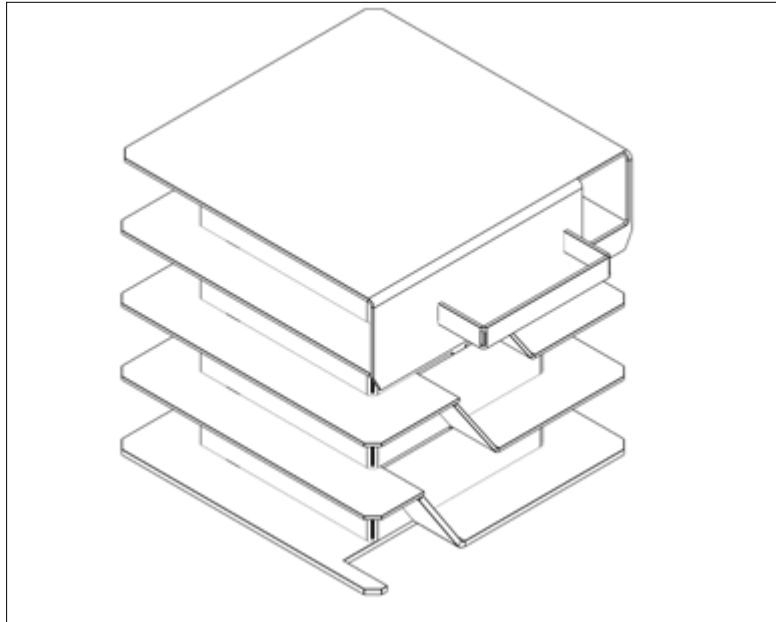
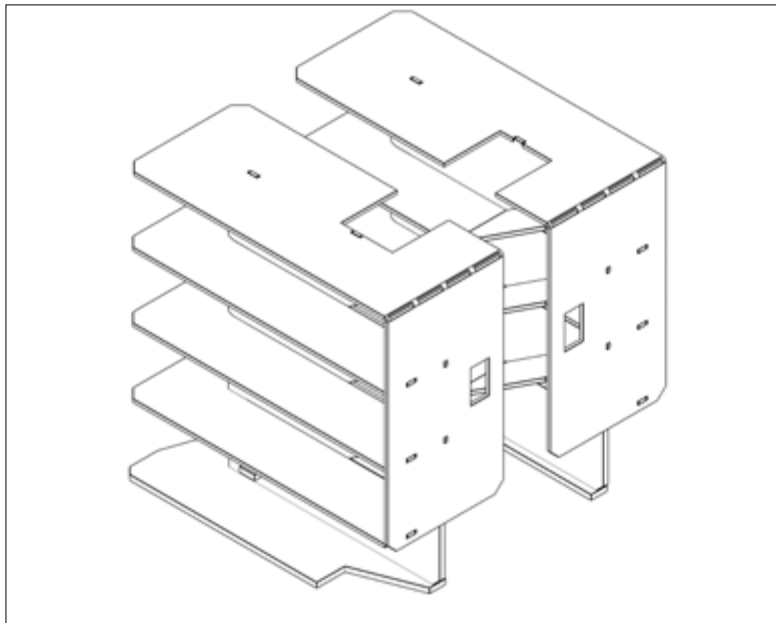
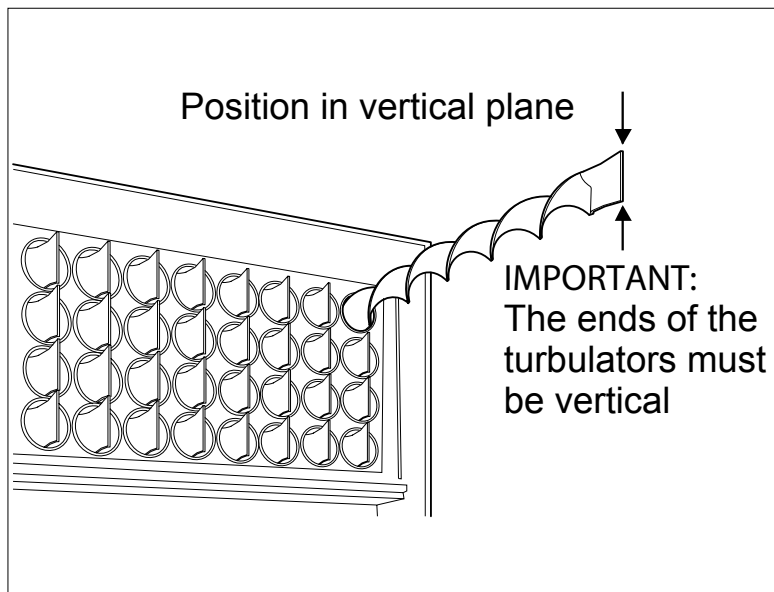

Figure 11-1: Baffles (15-21 & 21-26 models)
Figure 11-2: Baffles (26-35 models)
Figure 11-3: Turbulators
2. Remove the baffles as shown in Figure 11-1 and Figure 11-2.
6. Replace the baffles, ensuring they are correctly fitted. Refer to Figures 11-1 and 11-2, as appropriate. Pull out the spiral turbulators from the heat exchanger tubes. See Figure 11-3.